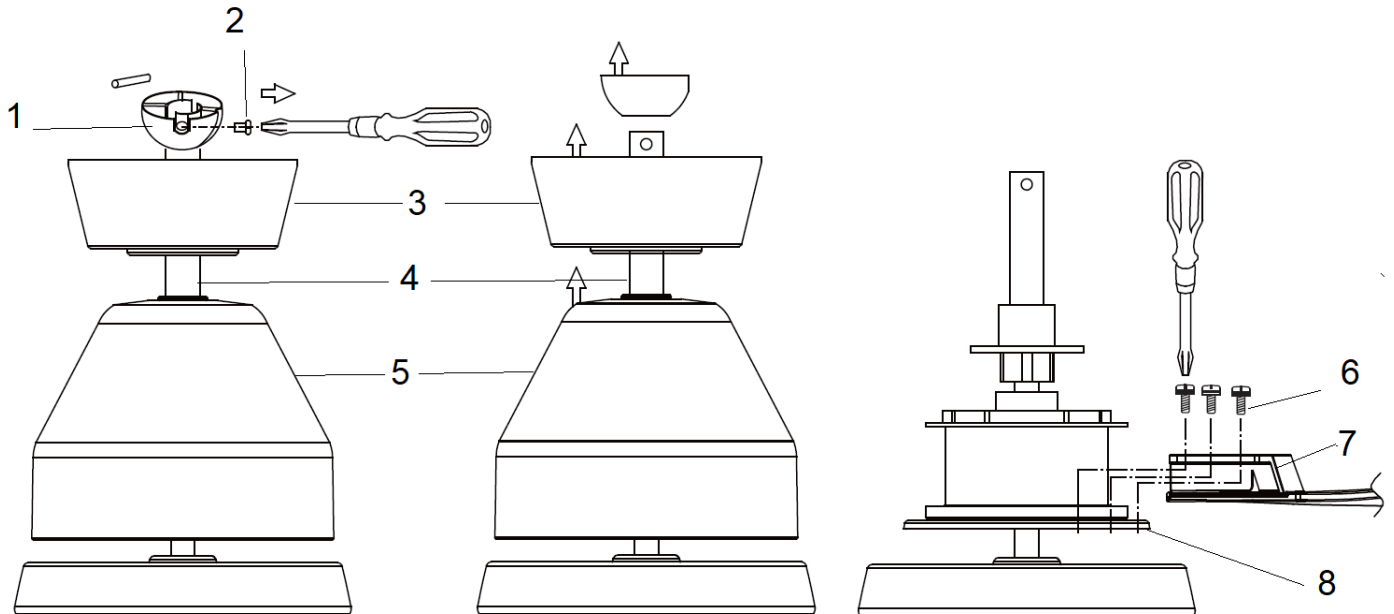

Fig. 6
### INSTALLATION OF BLADE (Fig. 6)
- Remove the ball joint (1) by loosening the set screw (2). Fig.6
- Remove the canopy (3) and the motor housing (5) from the down rod (4).
- Secure the blade (7) to the blade holder (8) by tightening the 3 blade screws (6).